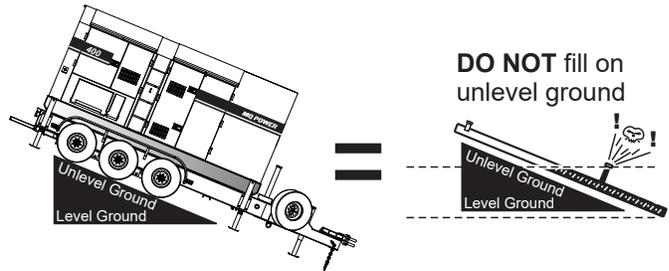

Figure 29. Only Fill On Level Ground
1. **Level Tanks** — Make sure fuel cells are level with the ground. Failure to do so will cause fuel to spill from the tank before reaching full capacity (Figure 29).